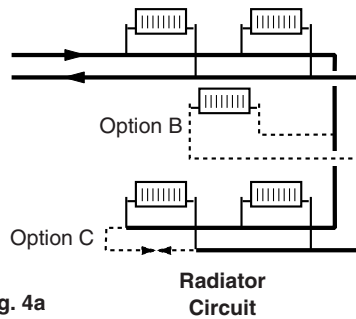
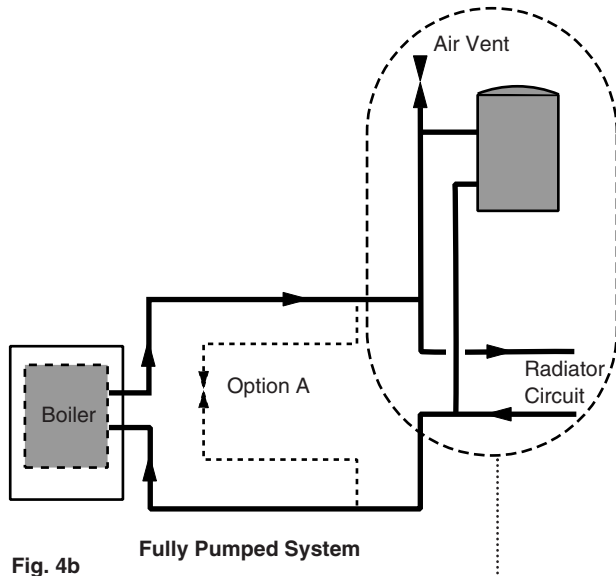

Fig. 4a
Fig. 4b
NOTE: For 'S' Plan systems the bypass flow circuit must be situated between pump and zone valves as option A shows (Fig. 4b).
- For all boilers a minimum of 6 metres of 22mm copper pipe, (measured between the boiler flow and return connections). It should be fitted with a lock shield valve opened at least 1 full turn or a proprietary bypass valve set to give a minimum flow rate of 8 litres/min (1.8 gal/min) (Option C, Fig. 4a & Option A, Fig. 4b).
- A radiator fitted with lock shield valves. The radiator output should be a minimum of 800 watts (2,700 Btu/h). Typically a convector type radiator with an area of 3750 cm² (4 sq ft) is adequate (Option B, Fig. 4a).
- Any circuit that provides the same operating conditions as option A or option B (Figs. 4a & 4b).